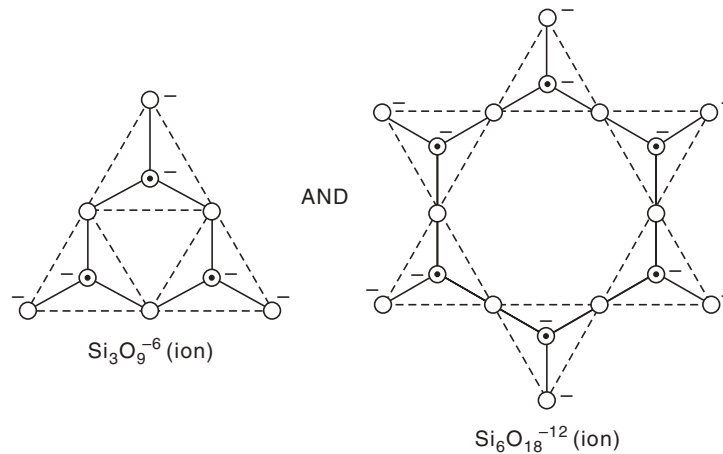

Fig. 19.3 Structure of  $\text{Si}_3\text{O}_9^{-6}$  and  $\text{Si}_6\text{O}_{18}^{-12}$  ions (ring).
**Cyclic or ring silicates** (Fig. 19.3). These silicates have cyclic structure and contain  $[(\text{SiO}_3)_n]^{-2n}$  ion as the primary unit. These silicates are formed when each  $\text{SiO}_4^{4-}$  tetrahedron shares two O-atoms (bridging O-atoms). *Bentonite* is an example:  $\text{BaTiSi}_3\text{O}_9$ .